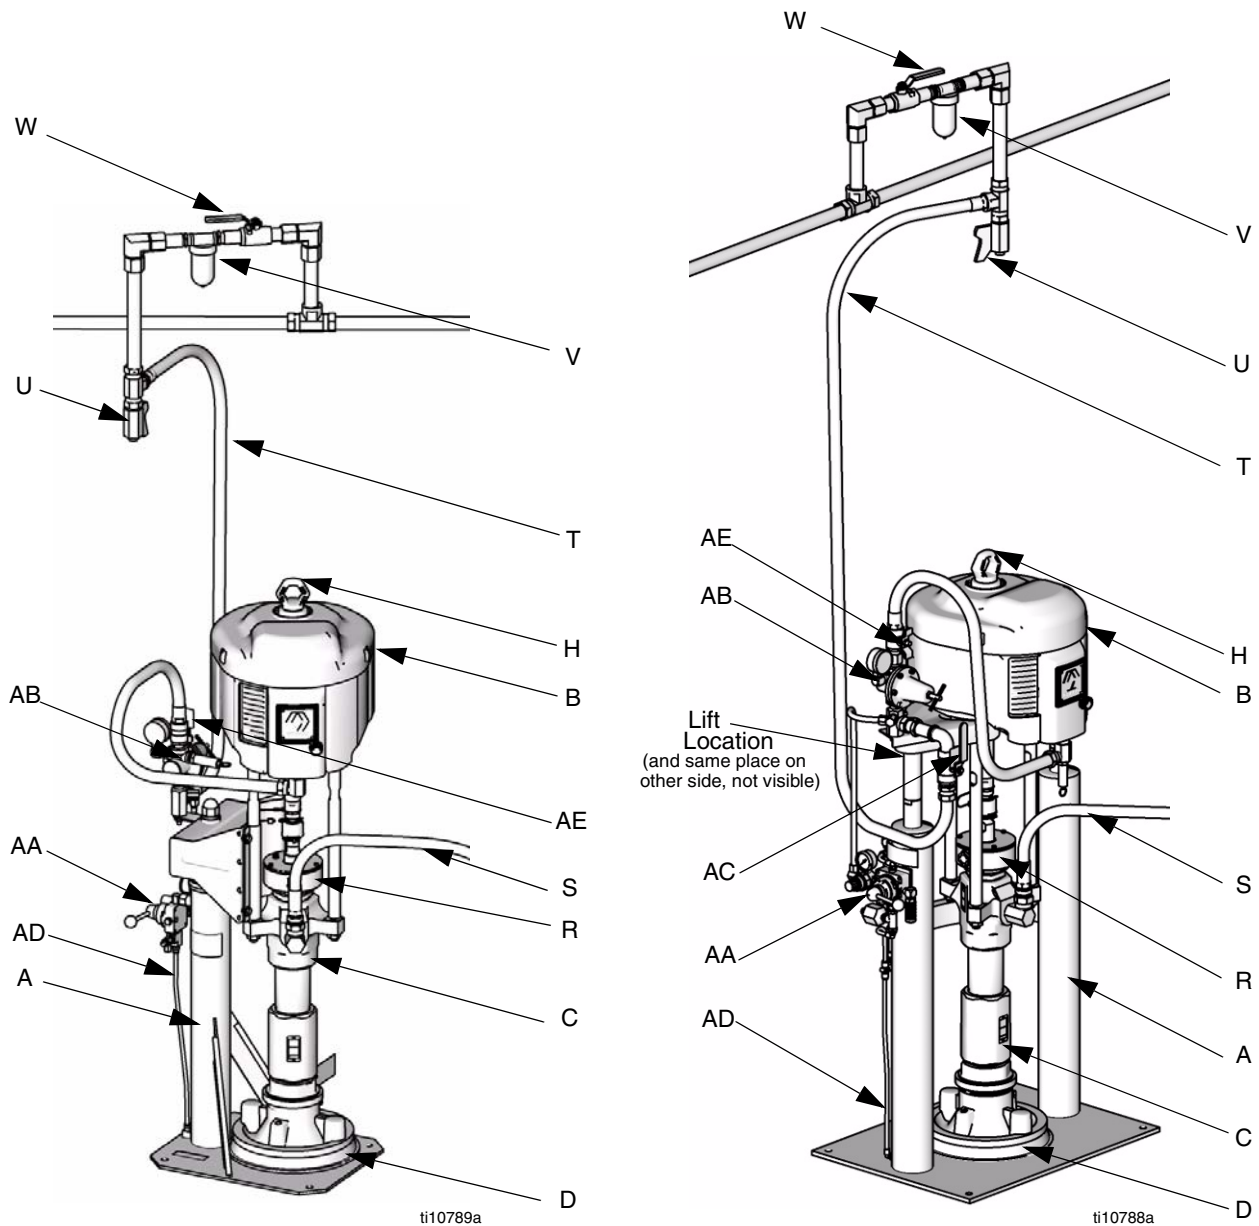
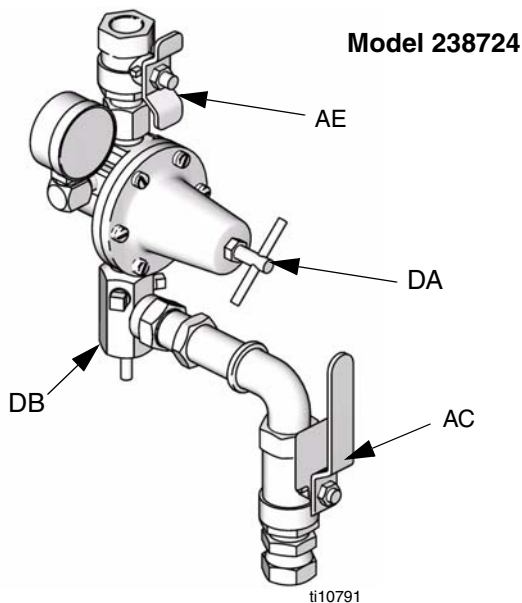
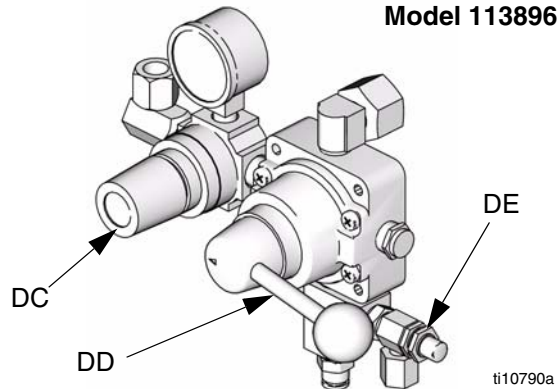

FIG. 5
FIG. 6. Air Regulator Assembly
FIG. 7. Ram Air Control Assembly
Refer to FIG. 5, FIG. 6, and FIG. 7.
See FIG. 5.
3. **Standard Air Controls:** See FIG. 5 and FIG. 6. Close the air motor valve (AE) and the main air valve (AC).